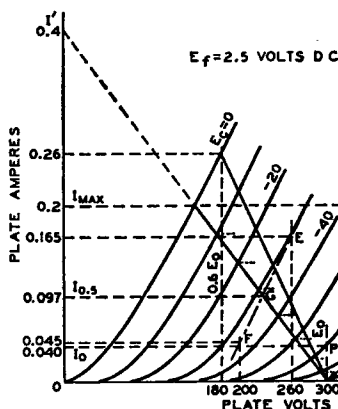
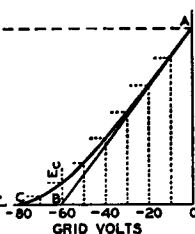

Fig. 45—Graphic calculations for class AB₁ amplifier using a power triode.
Fig. 46—Instantaneous curve for class AB₁ amplifier.
In class AB₁ push-pull amplifier service using triodes, the operating conditions may be determined graphically by means of the plate family if E_c , the desired operating plate voltage, is given. In this service, the dynamic load line does not pass through the operating point P as in the case of the single-tube amplifier, but through the point D in Fig. 45. Its position is not affected by the operating grid bias provided the plate-to-plate load resistance remains constant.
In general, for any load line through point D, Fig. 45, the plate-to-plate load resistance in ohms of a push-pull amplifier is $R_{pp} = 4E_o/I'$, where I' is the plate-current value in amperes at which the load line as projected intersects the plate-current axis, and E_o is in volts. This formula is another form of the one given under push-pull class A amplifiers, $R_{pp} = 4(E_o - 0.6E_o)/I_{max}$, but is more general. Power output $= (I_{max}/\sqrt{2})^2 \times R_{pp}/4$, where I_{max} is the peak plate current at zero grid volts for the load chosen. This formula simplified is $(I_{max})^2 \times R_{pp}/8$. The maximum-signal average plate current is $2I_{max}/\pi$ or $0.636 I_{max}$; the maximum-signal average power input is $0.636 I_{max} \times E_o$.
Example: Fig. 45 illustrates the application of this method to a pair of power triodes operated at $E_o = 300$ volts. Each tube has a plate-dissipation rating of 15 watts. The method is to
the plate family and the load line. Fig. 46 is a curve of instantaneous values of plate current and dc grid-bias voltages taken from Fig. 45. Values of grid bias are read from each of the grid-bias curves of Fig. 45 along the load line and are transferred to Fig. 46 to produce the curved line from A to C. A tangent to this curve, starting at A, is drawn to intersect the grid-voltage abscissa. The point of intersection, B, is the operating grid bias for fixed-bias operation. In the example, the bias is -60 volts. Refer back to the plate family at the operating conditions of plate volts = 300 and grid bias = -60 volts; the zero-signal plate current per tube is seen to be 0.04 ampere.
As in the case of the push-pull class A amplifier, the second-harmonic distortion in a class AB₁ amplifier using triodes is very small and is largely canceled by virtue of the push-pull connection. Third-harmonic distortion, however, which may be larger than permissible, can be found by means of composite characteristic curves. A complete family of curves can be plotted, but for the present purpose only the one corresponding to a grid bias of one-half the peak grid-voltage swing is needed. In the example, the peak grid voltage per tube is 60 volts, and the half value is 30 volts. The composite curve, since it is nearly a straight line, can be constructed with only two points (see Fig. 45). These two points are obtained from deviations above and below the operating grid and plate voltages.
These steps provide points at 260 volts and 0.165 ampere (E), and at 200 volts and 0.045 ampere (F). A straight line through these points is the composite curve for a bias of -30 volts, shown as a long-short dash line in Fig. 45. At the intersection of the composite curve and the load line, G, the instantaneous composite plate current at the point of one-half the peak signal swing is determined. This current value, designated $I_{0.5}$ and the peak plate current, I_{max} , are used in the following formula to find the peak value of the third-harmonic component of plate current.